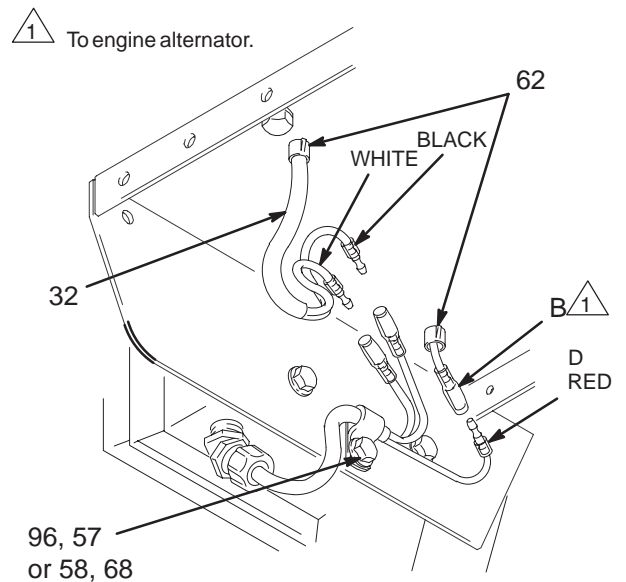

Fig. 18
6. Place the **engine (1)** assembly on the cart. Align the mounting holes. Guide the engine wire (B) and wiring harness (29) from the field through the appropriate grommets (62) in the mounting plate (E). Install the serrated flange screws (14), and nuts (48 or 57) and torque to 15 ± 2 ft-lb (20 ± 2.7 N·m). Install the capscrew (15), from under the engine mounting plate to secure the clutch housing (2). Connect the engine wire (B) to the red wire (D), and connect the black and white wires as shown in Fig. 18.